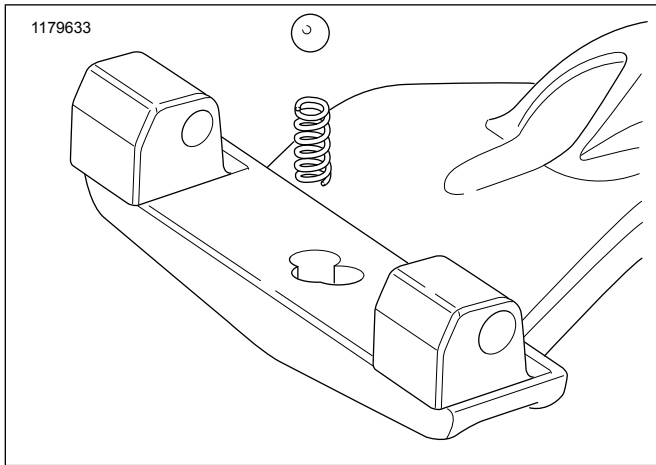

Figure 3. Installing Ball and Spring
5. See Figure 3. Insert spring into retaining hole in footboard support. Rest ball on top of spring.